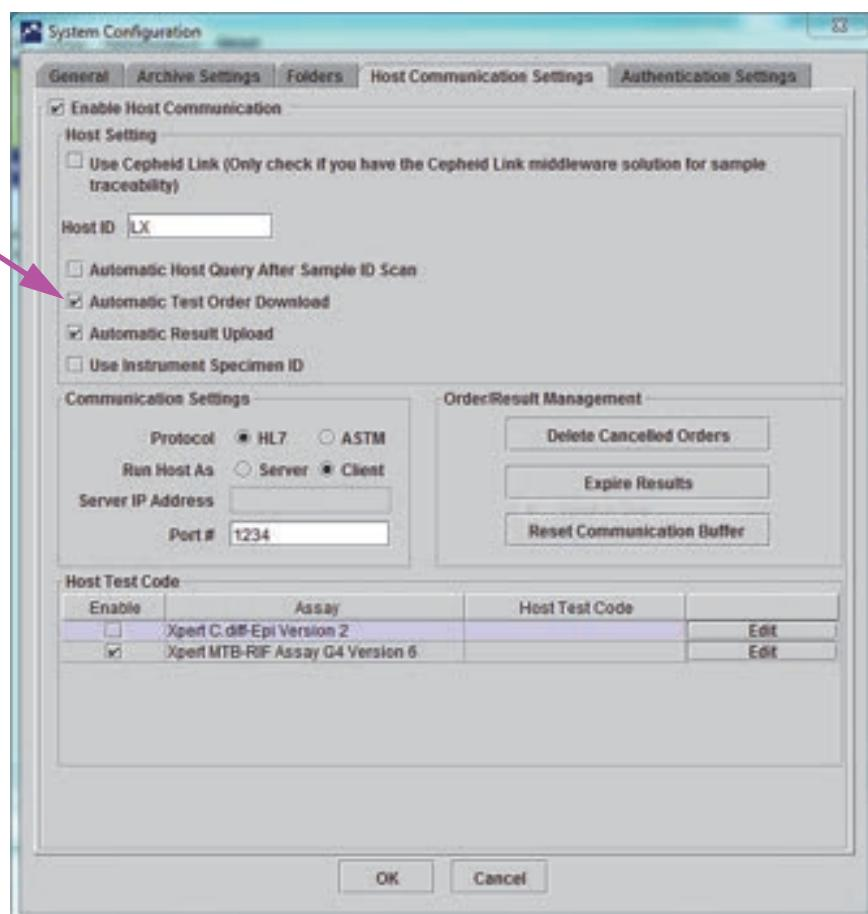

Figure 5-93. Automatic Test Order Download Selected
1. In the **Host Communication Settings** tab of the System Configuration dialog, click on the **Automatic Test Order Download** check box to select and enable this function. See Figure 5-93.